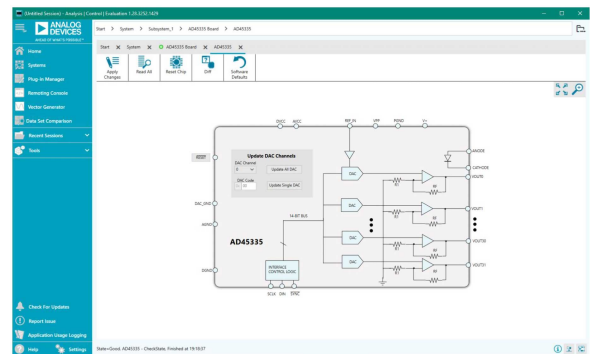

Figure 5. ACE AD45335 Chip View
6. Click on the **AD45335** chip to access the device view window (Figure 5). Figure 5 provides access to the basic controls for configuring the DAC.